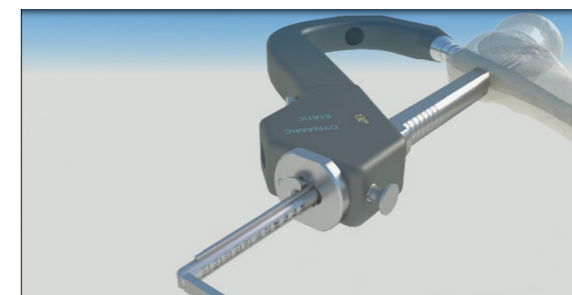

Figure 13a
- Insert anti rotation bolts, temporarily fix, stabilize the femoral head, and prevent subsequent operations from causing fracture displacement. If the insertion is not smooth, drilling can be done again (Figure 13a).